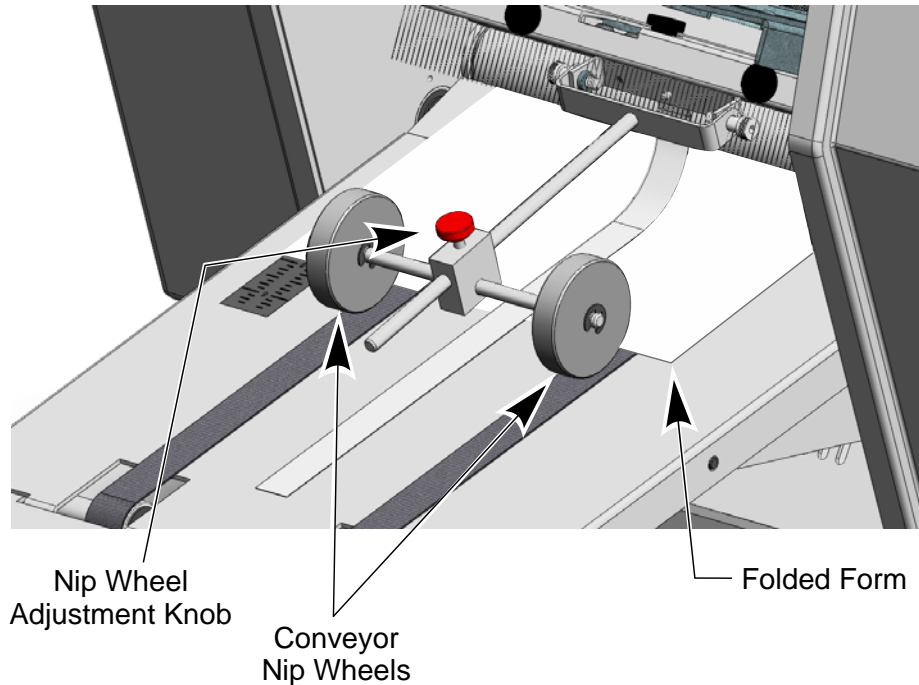

Figure 13: Nip Wheel Adjustment Knob
The placement of the **Conveyor Nip Wheels** is important for the proper functioning of the conveyor [see Figure 13].
3. Move the **Nip Wheels** so they just touch the front edge of the form [see Figure 13].